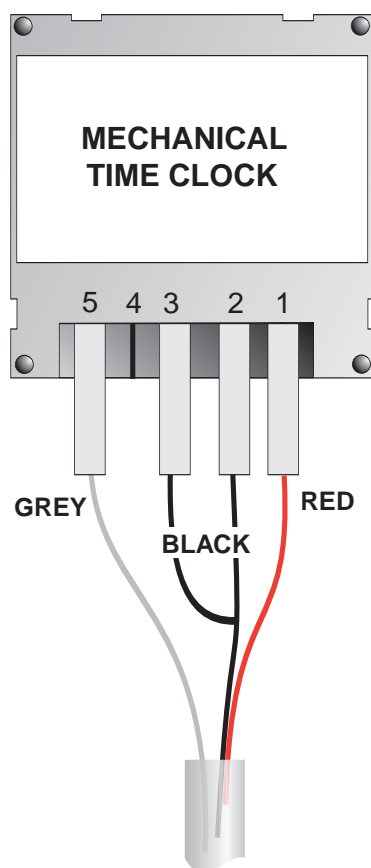

FIG. 6.21
- 7) Plug the clock cable into the connector on the Printed Circuit Board and connect the cables to the clock as indicated in Fig. 6.21